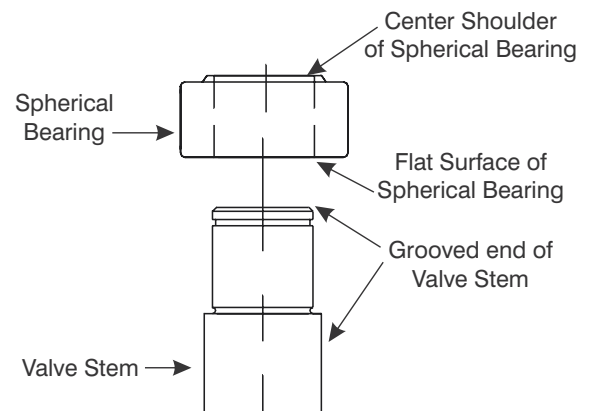

Figure 9-13. Orientation of Spherical Bearing
5. Turn the spherical Bearing (2) so the central shoulder is at the top and the flat side is at the bottom as shown in Figure 9-13.